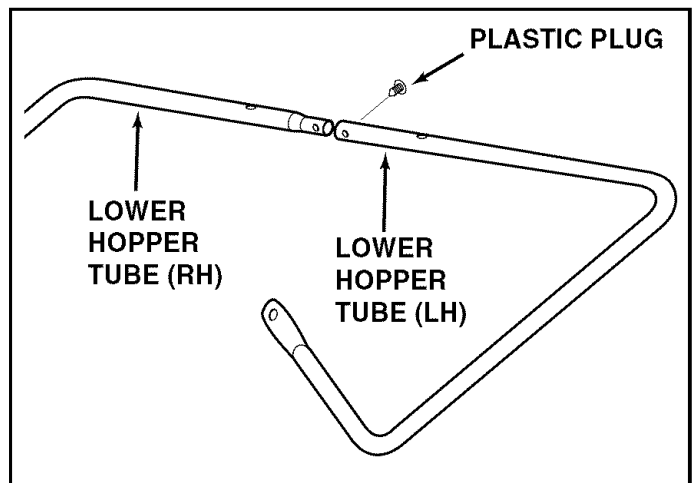

FIGURE 10
- Fit the ends of the (RH) and (LH) lower hopper tubes together. Align the holes in the tubes and insert a plastic plug. See figure 10.